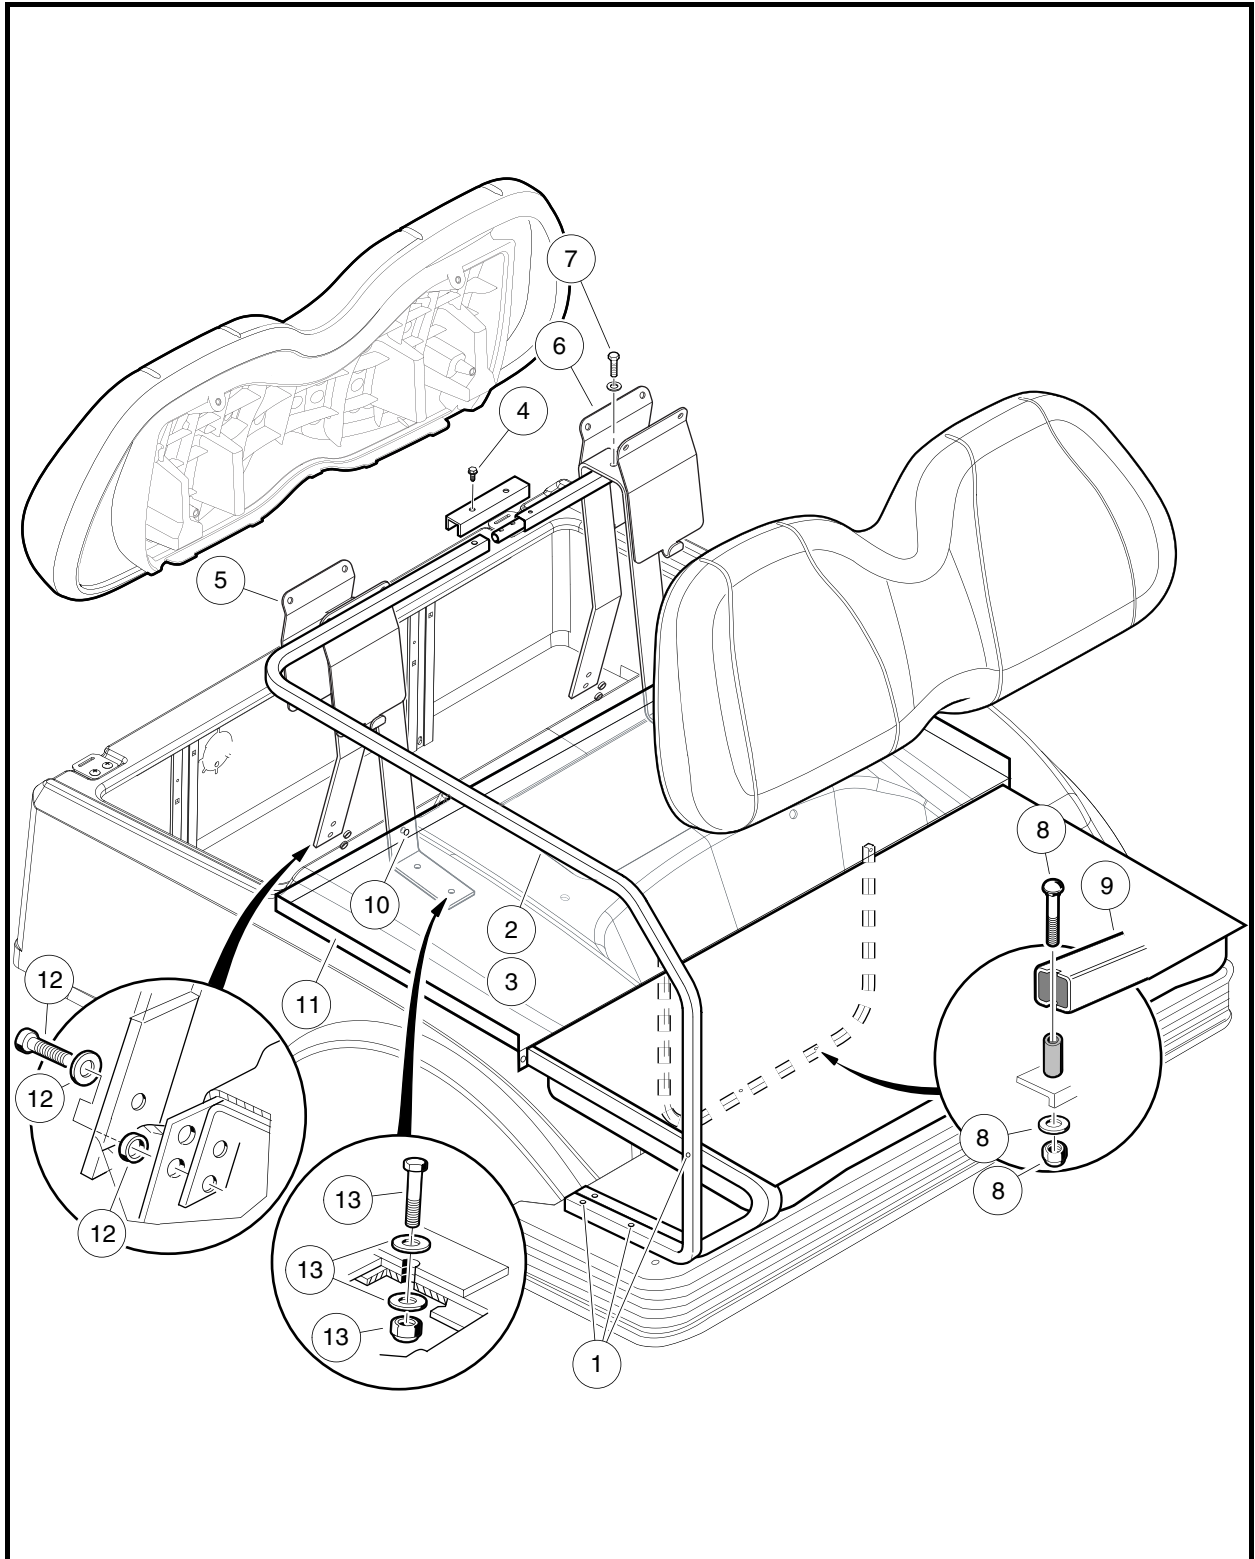

Figure 4-20 Rear Seat/Handrail – 850
- 8.1. Remove the hardware (1) that secures the rear handrails (2 and 3) to the rear footrest assembly (**Figure 4-20, Page 4-17**).
- 1.5. Tighten hardware (12) attaching the front legs of the seat back support assembly to the chassis to 120 in-lb (13.6 N·m) (**Figure 4-20, Page 4-17**).